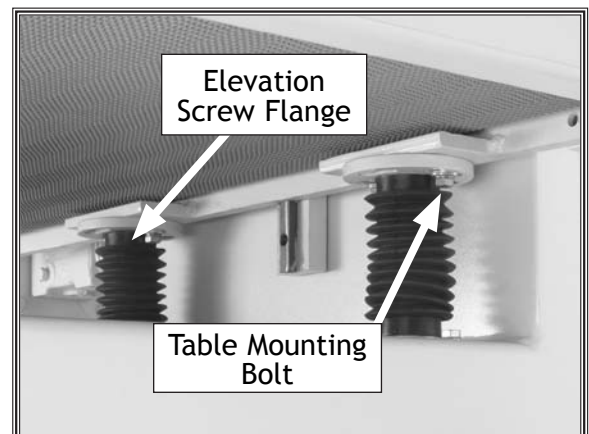

Figure 45. Table mounting bolts and elevation screw flange.
- For minor adjustment, loosen the table mounting bolts shown in Figure 45 and rotate the elevation screw flange.